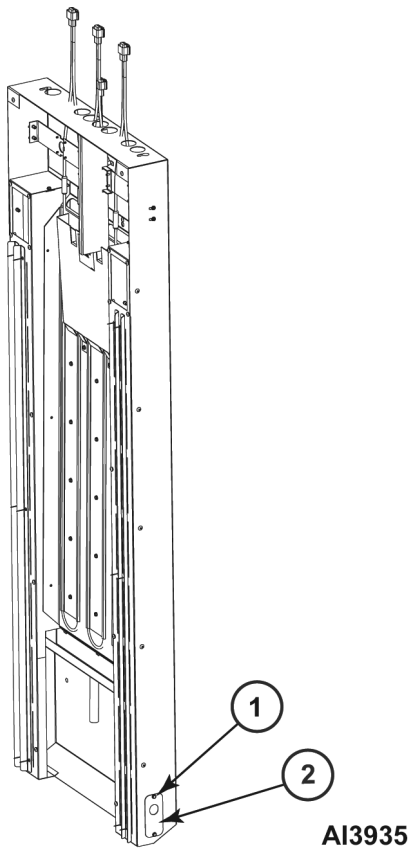

Fig. 45
2. Install drain tube with elbow from outside of cabinet through hole in rear or front wall - depending on location of facilities drain - then through cover plate (2, Fig. 45) and side of duct.
8. Use two metal screws (1, Fig. 45) to secure drain line with drain cover plate (2, Fig. 45) to side of air duct.